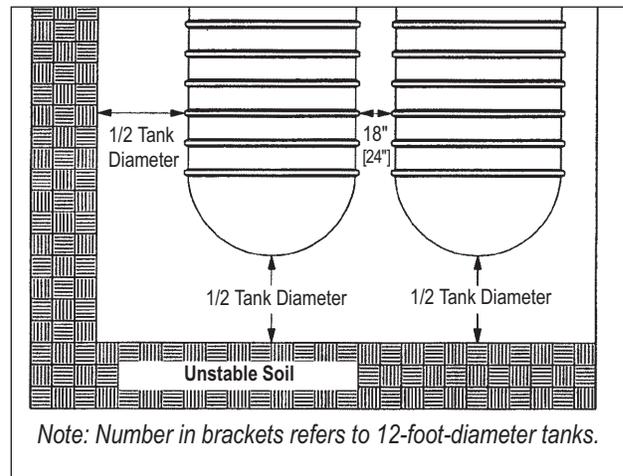

FIGURE 5-5
5.3.3.1. If the soil has less than 750 lbs./sq. ft. cohesion as calculated from an unconfined compression test; or in soils having an ultimate bearing capacity of less than 3,500 lbs./sq. ft.; or where soil will not maintain a vertical wall, the excavation must allow a minimum space equal to half the diameter of the tank between the excavation wall and both the side and the endcap of the tank to enhance lateral resistance. (See FIGURE 5-5.)